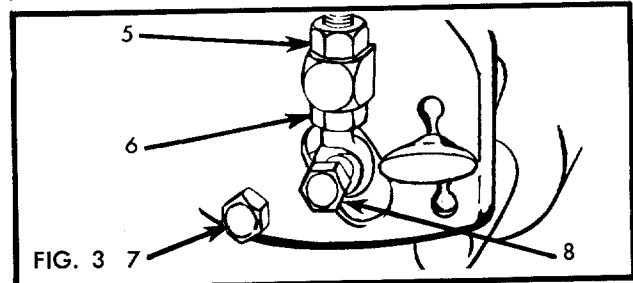

FIG. 3
1. (Fig. 3) Loosen top nut (5) one quarter turn.
2. Tighten lower nut (6).